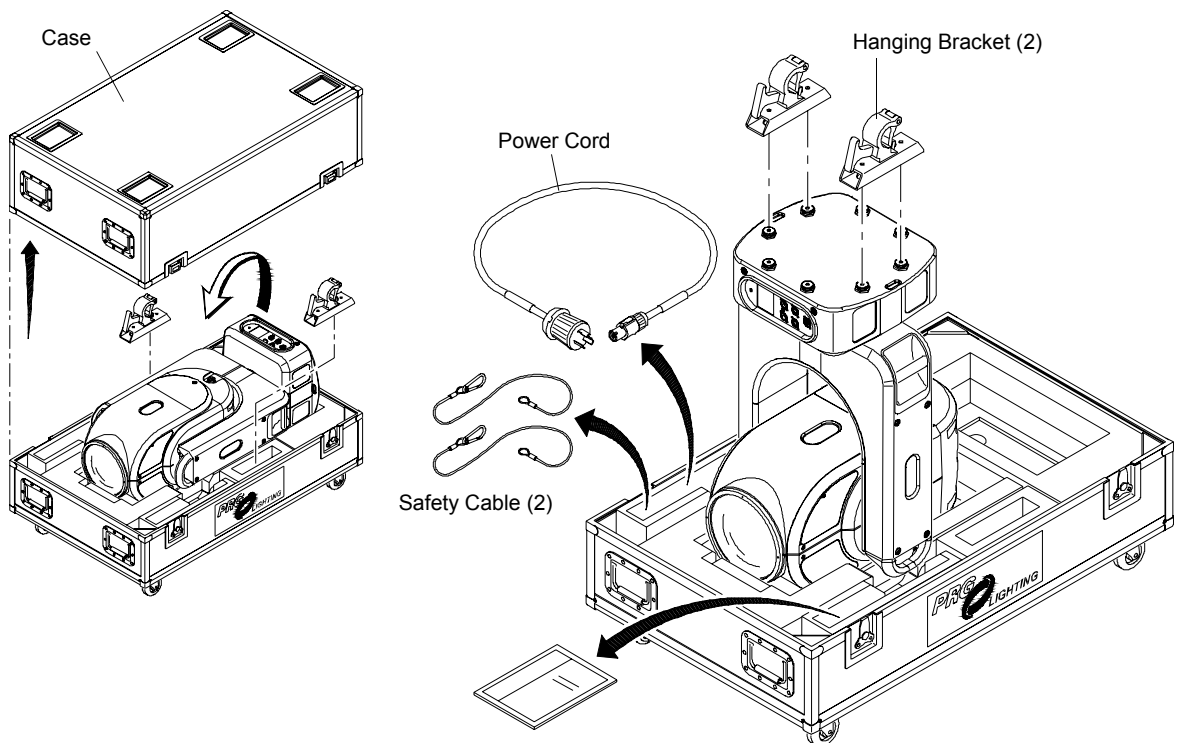

Figure 2-2: Opening Case and Attaching Hanging Brackets
- Step 1. Unlatch and remove case lid (Figure 2-2).
- b. Orient Hanging Bracket in desired direction over two attachment buttons on bottom of upper enclosure (Figure 2-2).